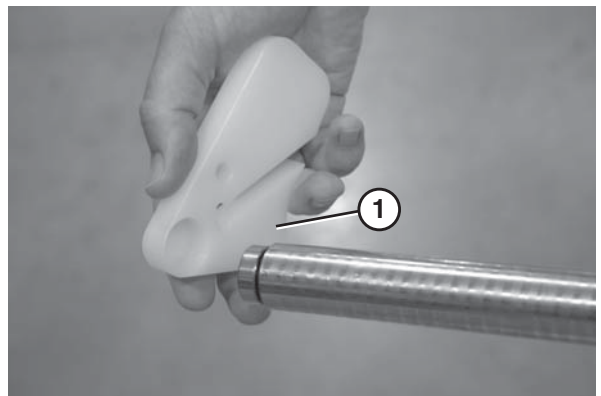

Figure 86
2. Remove the nose bar puck holders (Figure 86, item 1).